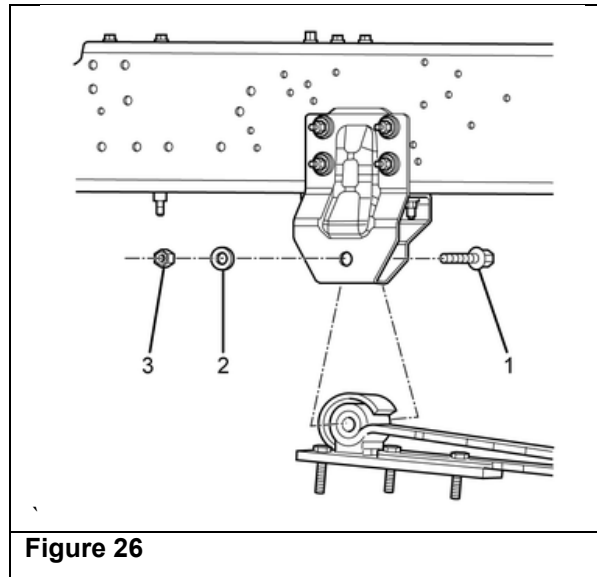

Figure 26
33. Install the front leaf spring eye bolt (1), washer (2) and nut (3), but do not tighten. (See Figure 26.)